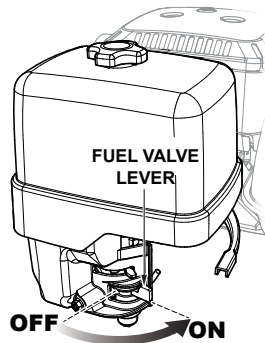

Figure 10. Fuel Shut-Off Lever (ON)
1. Place the fuel shut-off lever (Figure 10) in the **ON** position.